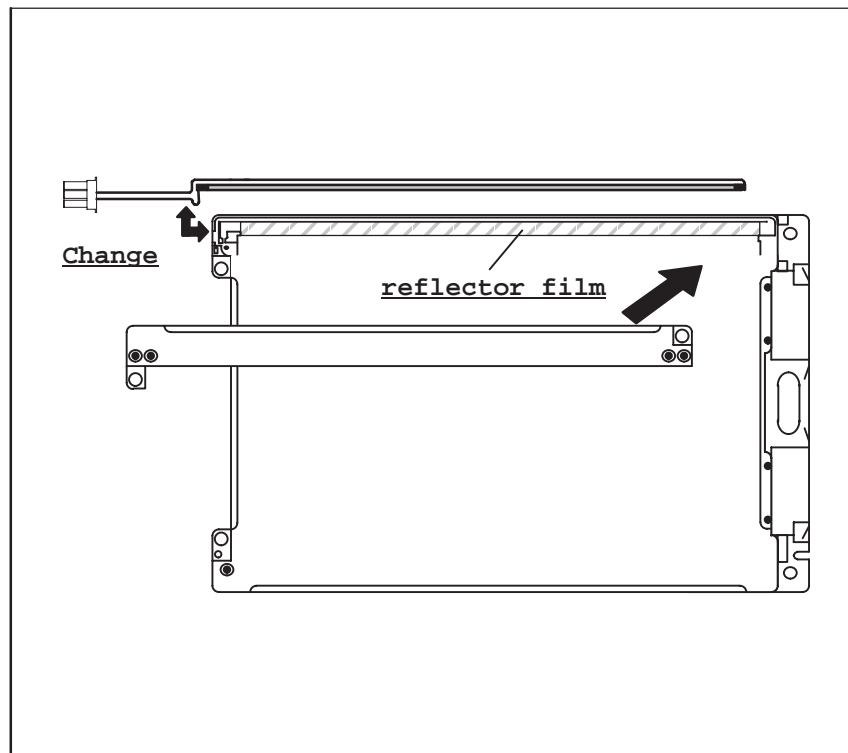

Figure 1-23 Disassembling the Rear Panel of the Display
- Disassemble the rear panel of the display as shown in Figure 1-23.
- Reassemble the rear panel of the display (see Figure 1-23) and replace the 4 screws.